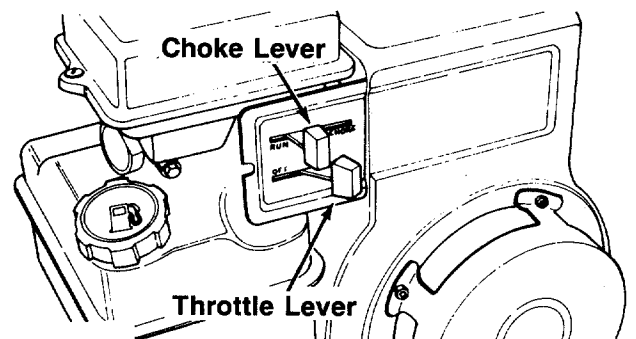

FIGURE 13.
1. Place throttle control lever on the engine in **FAST** position. See figure 13.